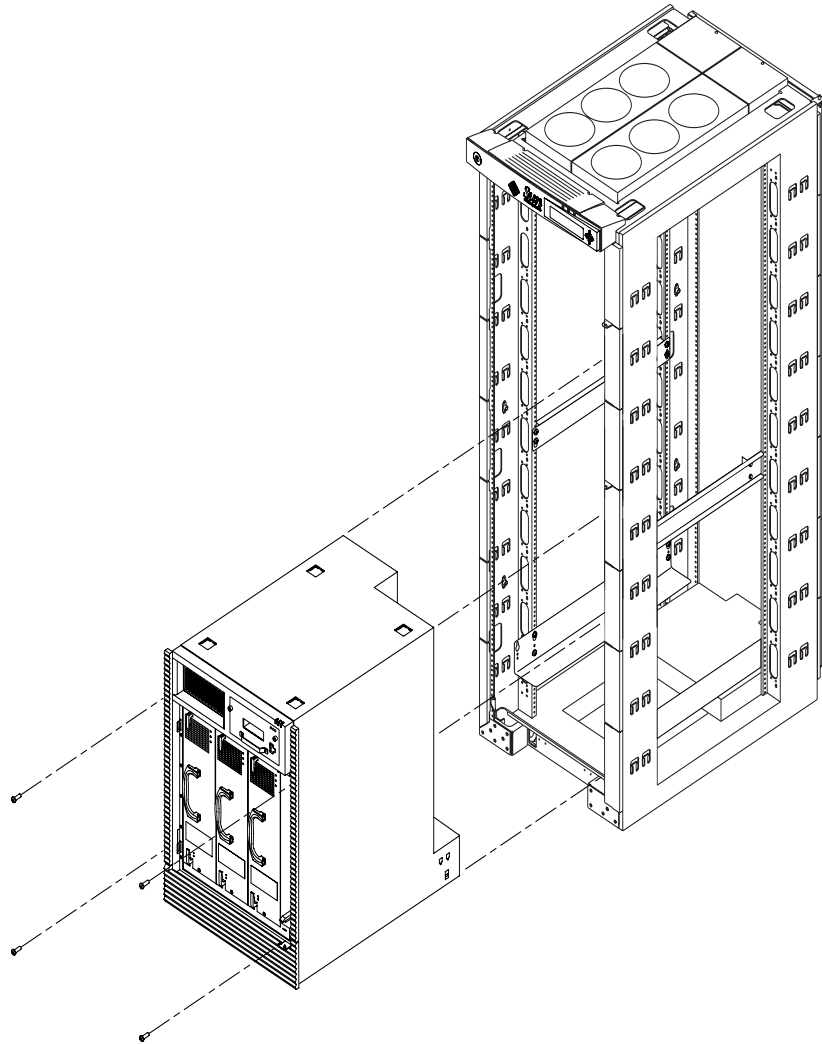

FIGURE 3-2 Mounting the Sun Fire E4900 System Into a Sun Fire Cabinet
2. **Insert the system, from the front, onto the bottom mounting rails in the cabinet (FIGURE 3-2).**